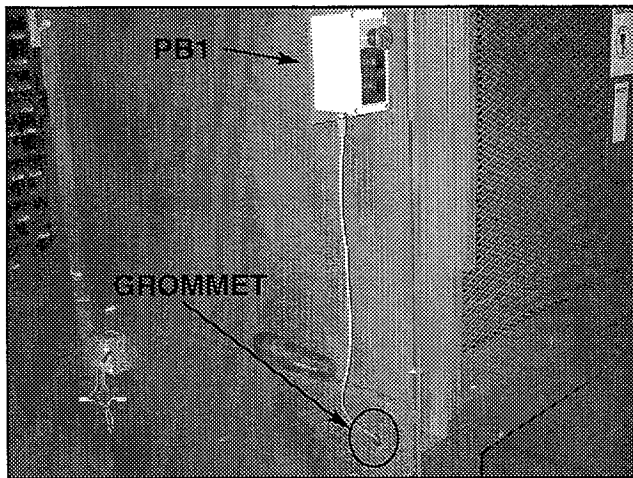
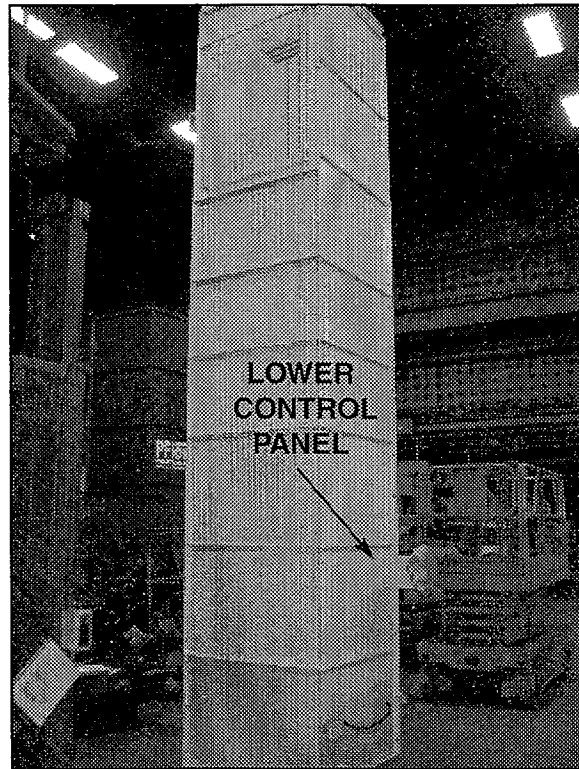

Figure 4
Figure 6
3. Remove access cover below lower level gate to gain access to control panel cables. Feed cable (PB1) through hole with grommet in lower panel and to where you have mounted control panel / push button station near lower level gate. See Figure 6. Secure cables inside and outside of lift so they don't interfere with moving parts of lift. Match wire tag to tag on panel. See Figure 4